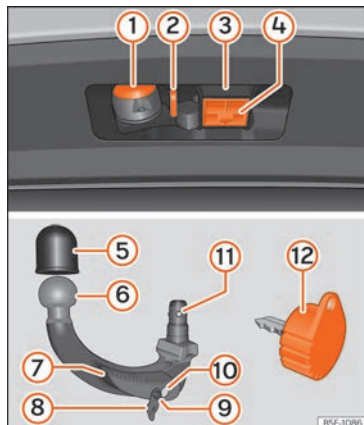

Fig. 251 The towing device supports trailers / tow hook / key
- The top part of the hook housing is greased »» Fig. 251 ③. When using the device, make sure that it has not been removed.
- Remove the hook housing cap >>> **Fig. 251** ④ downwards.
- Fit cover (4) » Fig. 251 onto its housing.